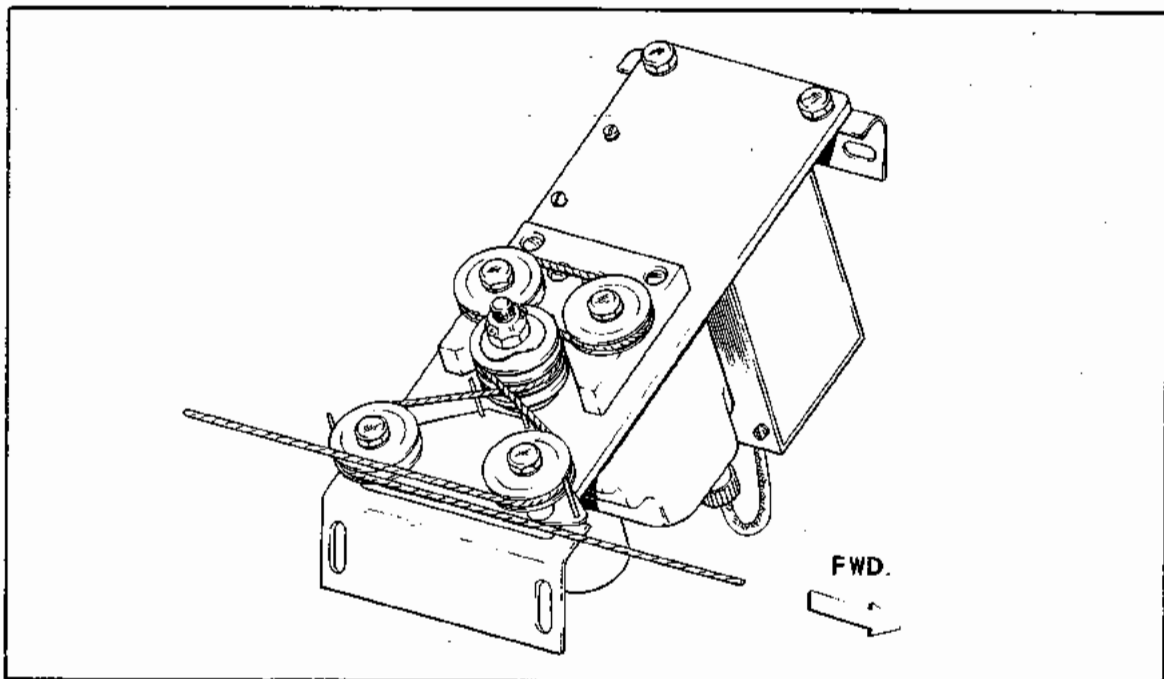

Figure 9-14. PA-34-200 Trim Servo Cable Routing
**9-35. INSTALLATION OF TRIM SERVO. (PA-34-200.)** (Refer to Figure 9-14.)
9-37. INSTALLATION OF TRIM AMPLIFIER. (PA-34-200.) (Refer to Figure 9-14.)